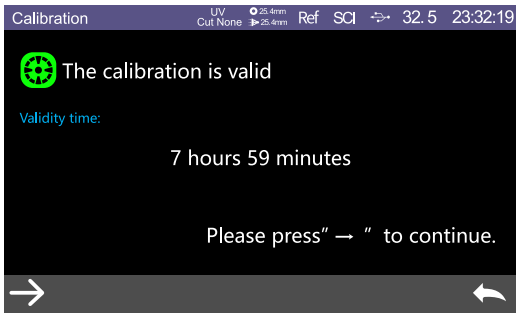

Figure 4 Black and White Calibration
2、 Click “Calibrate” to enter white and black calibration interface as shown in Figure 4. It will show whether the calibration is valid or not and how long the remaining time is.
After black and white calibration are finished rightly, the instrument system will reset remaining time according to valid time since last calibration (As shown in Figure 4).
After finishing of calibration rightly, the instrument system will reset remaining time according to valid time since last calibration (As shown in Figure 4).